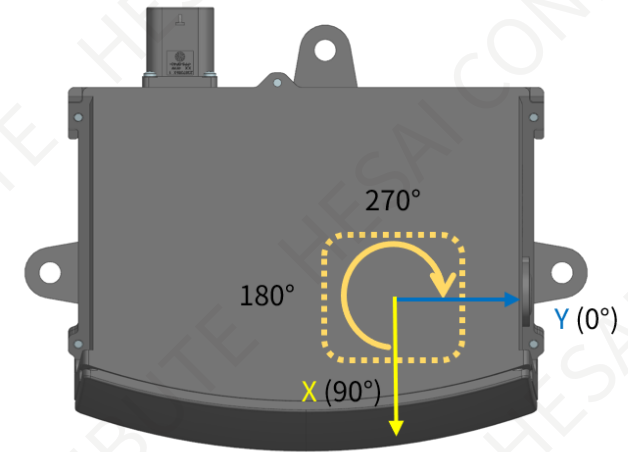

Figure 3. Mirror rotation direction (top view)
The lidar structure is shown in Figure 3. Mirror rotation direction \(top view\). A rotating mirror is used to scan horizontally.
- The mirror rotates clockwise in the top view, see Figure 3. Mirror rotation direction \(top view\).
- Lidar azimuthal position is defined in Figure 3. Mirror rotation direction \(top view\). The Y-axis corresponds to 0°.